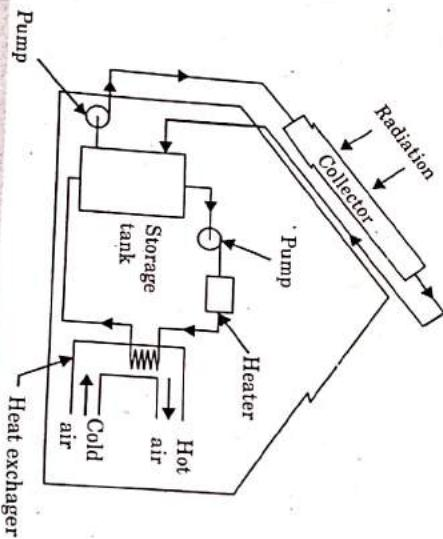

Fig. 2.33.2. Schematic of active space heating by water collector.
4. In other arrangement the water heating arrangement is provided through the collectors placed at top of the roof as shown in Fig. 2.33.2.